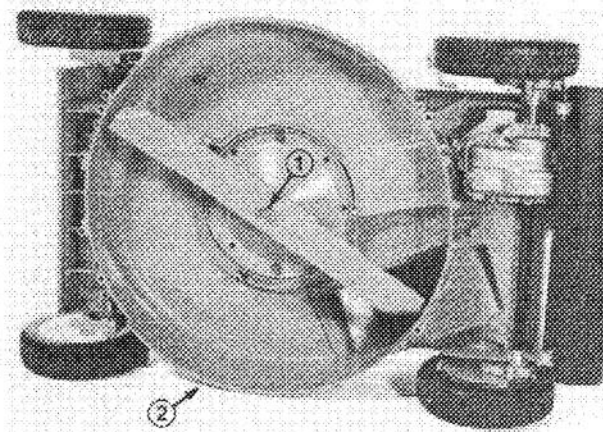

Figure 27
3. Tip mower on its right side (Fig. 27). Avoid rotating the blade when mower is tipped because starting problems may result.
4. Grasp end of blade using a rag or thickly padded glove. Using a socket or wrench, remove bladebolt, lockwasher, and blade (Fig. 27).